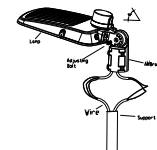

Figure 13
- Step 1: Loosen the four bolts on AM bracket, connect the wires correctly, and pull the wires into the poles.(Figure 13)